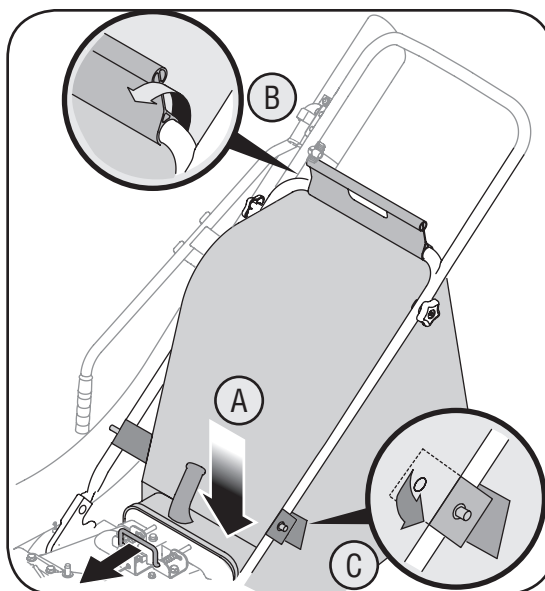

Figure 3-6
- a. Slip bag over the rim of the discharge opening and release locking rod to secure bag in place. See Figure 3-6.
- c. Place the lower straps on the bag over the top of lower handle, hooking them on the studs. See Figure 3-6.